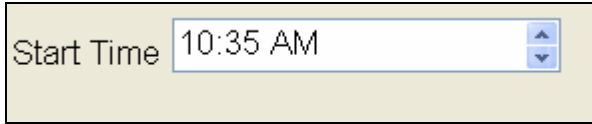

Figure 14.0.7
- Now click on the **Start Time** box. Use the **UP** and **DOWN** arrows to adjust the time that you want the program to start each day (Figure 14.0.7).